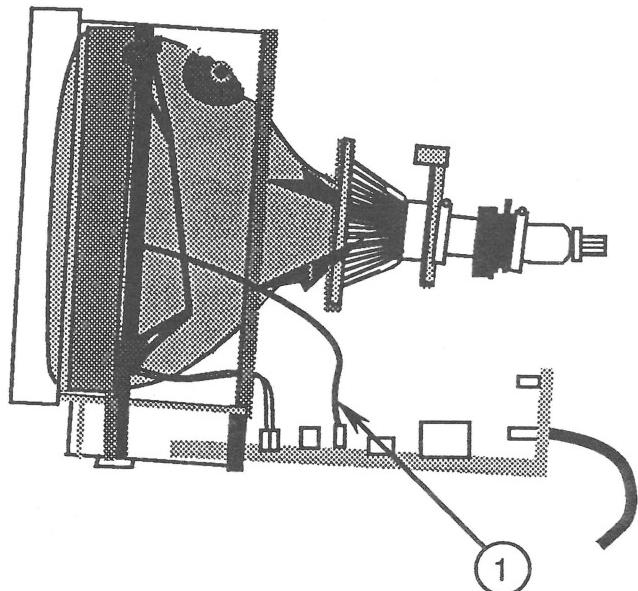

FIGURE 32
14. Reconnect the degaussing coil ground strap to connector **W** on the main logic PCB (Figure 32, #1), making sure the "W" on the side of the connector is matched to the "W" on the logic board.